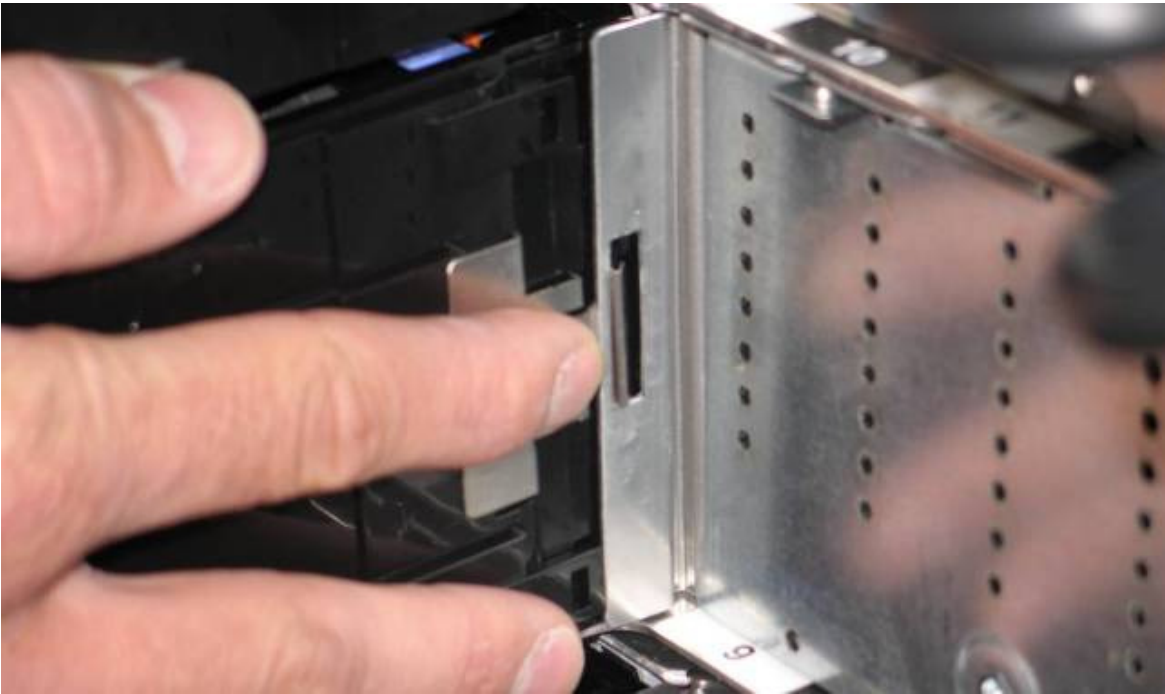
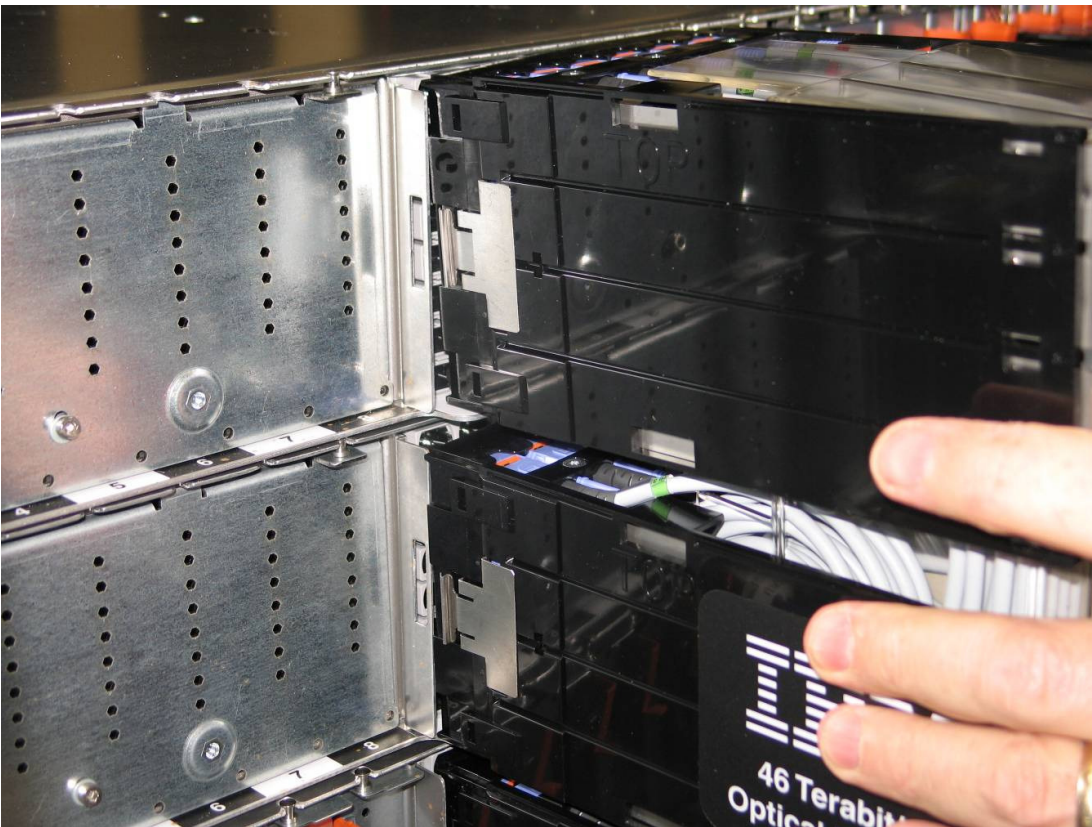

Figure 11 De-latch the OBE
Figure 12 Support the OBE as the last two spring clips are removed.
- STEP 11 Working from the bottom Drawer of the SuperNode and moving upward, press in the 2 spring clips on either side of the optical backplane enclosures, to de-latch the OBE from the drawers, and pull the handle/sidewall assembly slightly outward to separate it from the CEC drawer (see **Figure 11**). Be sure to support the full OBE as the last two clips are removed (see **Figure 12**).